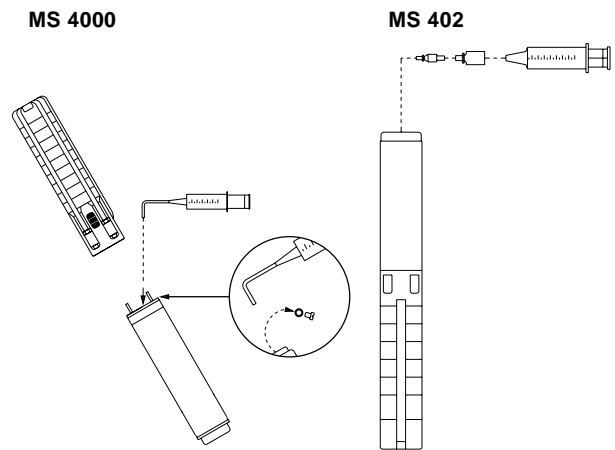

Fig. 2 Pump position during filling – MS 4000 and MS 402
1. Position the submersible pump as shown in fig. 2. The filling screw must be at the highest point of the motor.
3. Inject liquid into the motor with the filling syringe, fig. 2, until the liquid runs back out of the filling hole.